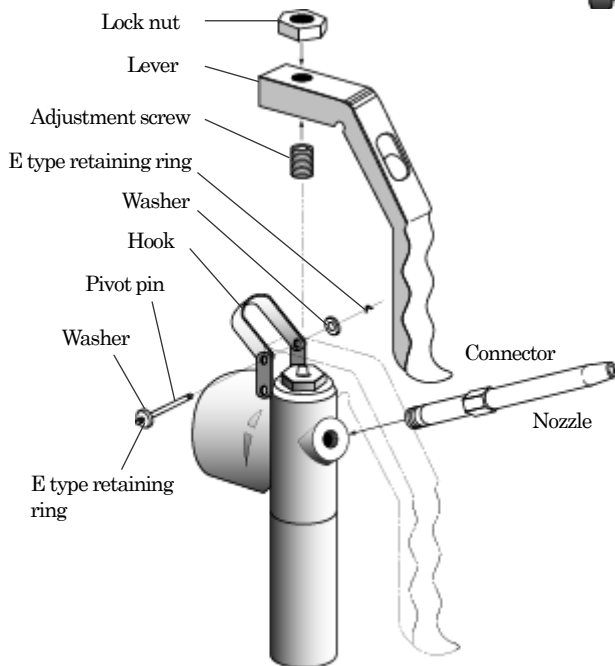

Fig.9
- ② Unscrew connector and remove attached. (Fig.9)